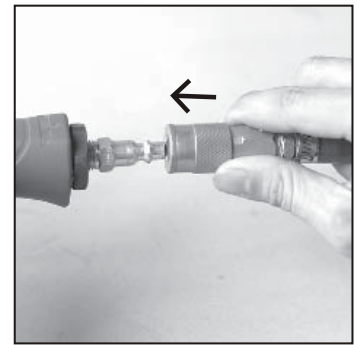

Figure 4
6. Remove air cap from the tool air inlet and mount a male plug. Connect the air supply hose to the tool. Set the working pressure to 90 PSI. (See figure 4)